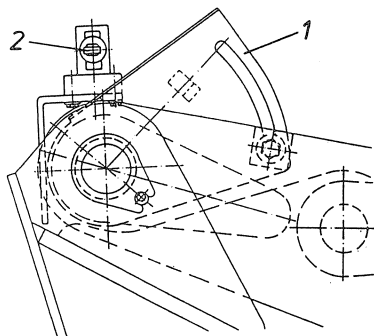

Fig. 12
The desired lifting height is adjusted by means of trip cam (Fig. 12/1).
- Unscrew hexagon bolt of the trip cam (Fig. 12/1) and shift the trip cam until the slide of the valve (Fig. 12/2) is impressed,